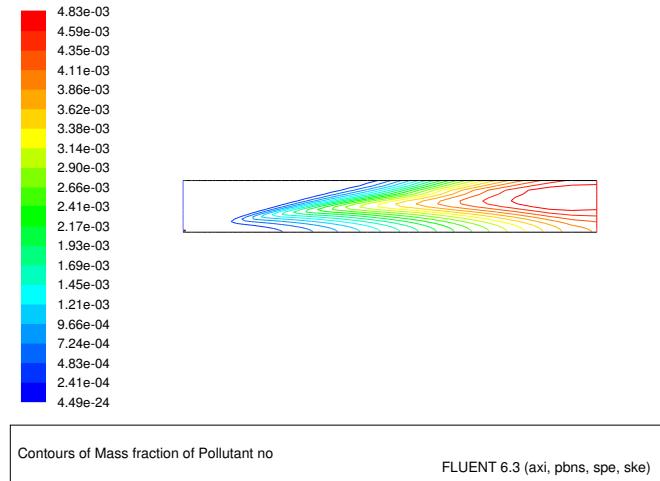

Figure 13.13: Contours of NO Mass Fraction: Thermal NO_x Formation
10. Review the thermal NO_x solution by viewing contours of NO mass fraction (Figure 13.13).